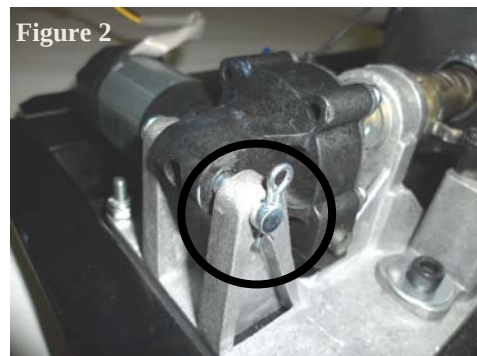

Figure 2
- 4) Remove hair pin from end of clevis pin (Figure 2) and remove clevis pin from motor mount casting.